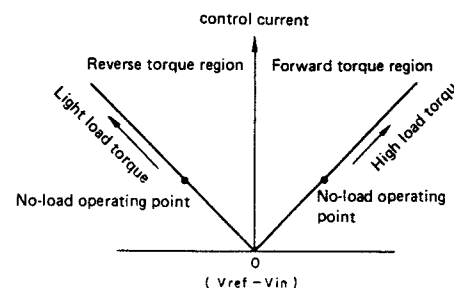

Fig. 5-7 Input/output characteristics
1. The signal at the 6 pin (control input) is compared with the signal at the 5 pin (reference voltage) and the difference in voltage is used to generate current in the motor winding. The input/output characteristics are shown in Fig. 5-7.